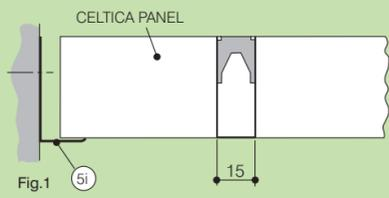
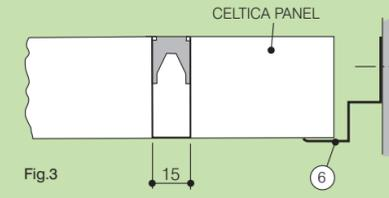

Fig. 1 5i 15
Fig. 3 15 6
Either of the perimeter angles (5i) Fig. 1 and (6) Fig. 3 can be used to cloak CELTICA cut components at wall and other abutments. Where the ceilings have free floating edges,